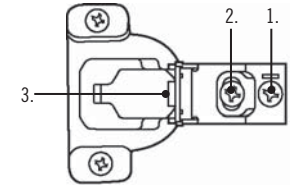

Figure 3
- Between floor and bottom of base (Figure 3)
Six-way adjustable hinges (Figure 3)